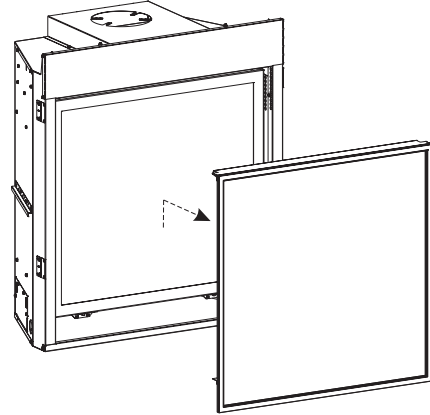

Figure 4
1. Turn off power and gas. Lift barrier screen and pull away from the unit. **See Figure 4.**
26. Replace barrier screen removed in step 1. **See Figure 4.**